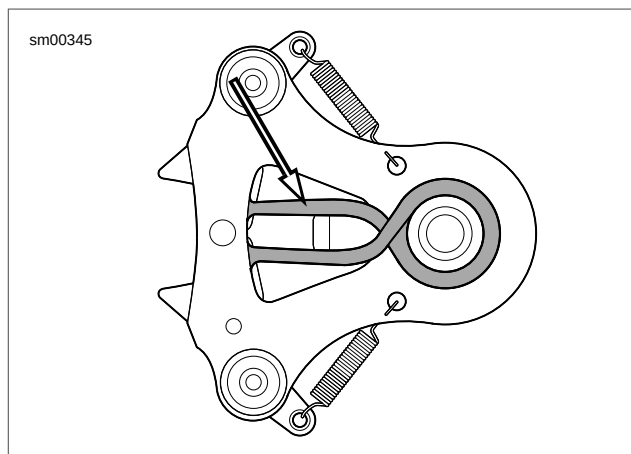

Figure 6-94. Shifter Shaft Return Spring (Correctly Installed)
1. See Figure 6-94. Correctly install shifter return spring onto the reverse side of the shifter shaft assembly before placing shaft in left crankcase half.